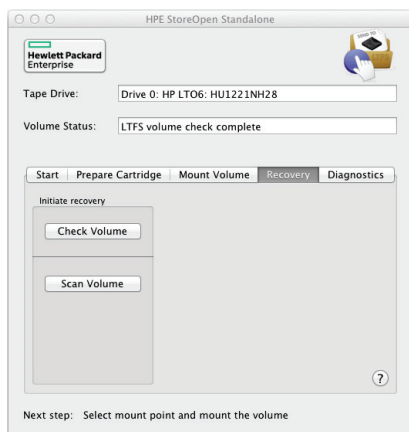

Figure 19. Completed Mac Recovery
7. During the recovery process you can monitor progress by switching to the Diagnostics tab. Note that some error messages may be displayed in the diagnostic output as a result of the issues with the volume, but these can be ignored if the operation completes successfully. The Volume Status will be updated to indicate completion as shown below in Figure 19.